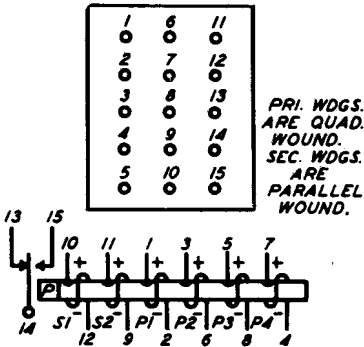

Fig. 39 – Winding and Spring Terminal Arrangement as Viewed From the Rear (terminal side) — 209-Type Relays
2.50 Facing the terminal side of the relay, terminals are numbered as shown in Fig. 39 through 42. On the 209-type relay, numbers 1, 6, and 11, shown on Fig. 39 are stamped in the terminal block. The other terminals are numbered consecutively from top to bottom in each row. Terminal numbers of the 215-, 218-, 228-, and 255-type relays are similarly stamped in the terminal block. Connections between terminals and contact springs and coil windings with which they are associated are shown on the relay conventions on the circuit drawing.